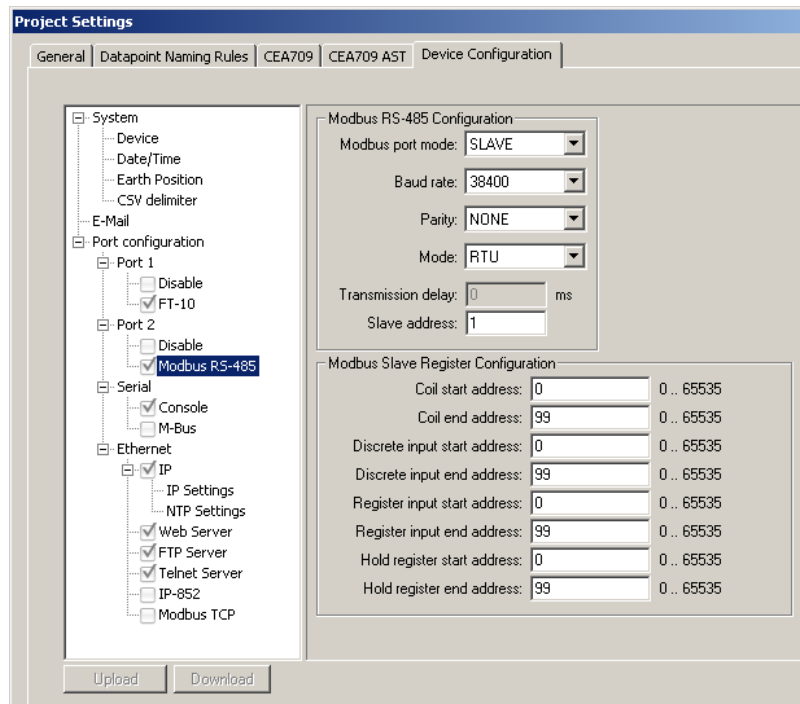

Figure 272: Project settings for Modbus.
2. In the **Device Config** tab enable the Modbus check boxes on the desired ports as shown in Figure 272. Setting the check box enables Modbus on that port. Edit the Modbus communication settings.